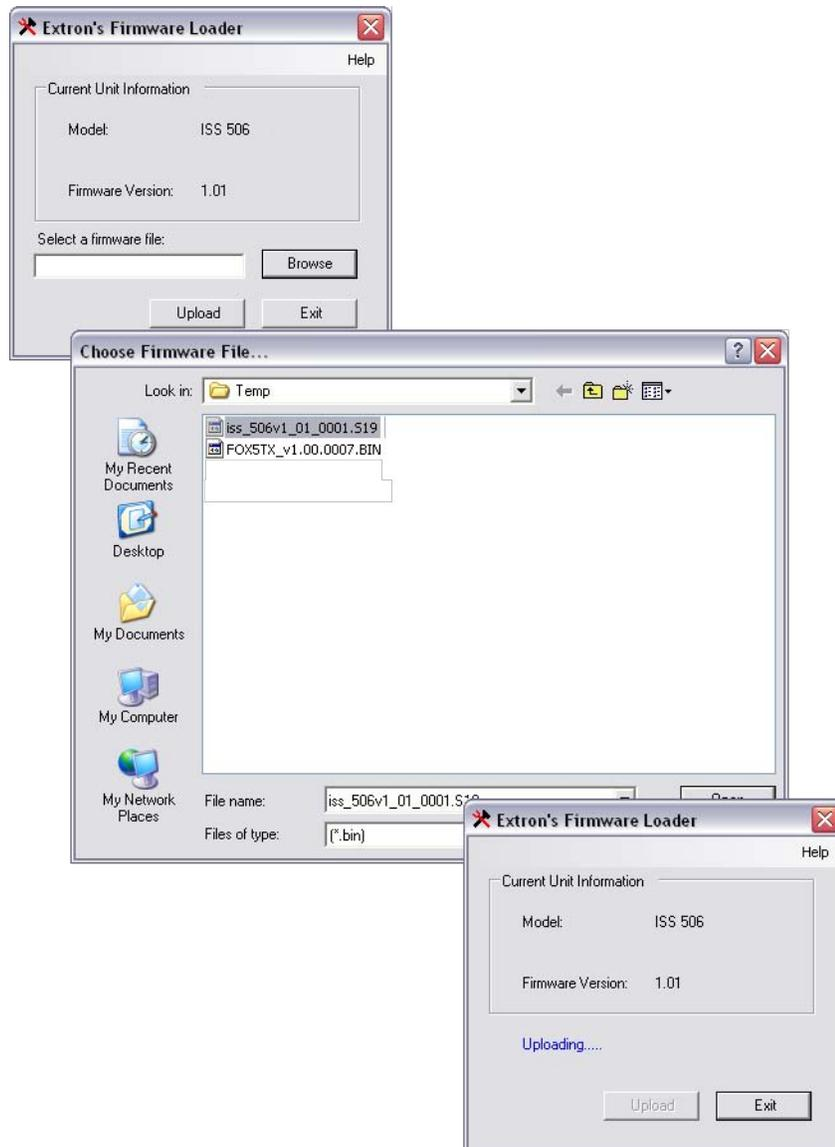

Figure 5-22 — Firmware loading
- Click the **OK** button. The Extron Firmware Loader appears (figure 5-22).